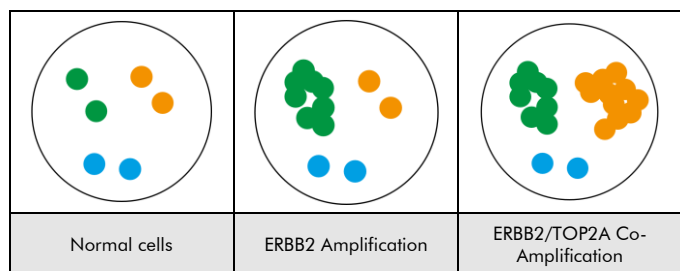

Fig. 2: Expected results in normal and aberrant nuclei
**Normal situation:** In interphases of normal cells or cells without an amplification involving the respective gene regions, two green, two orange, and two blue signals are expected (see Fig. 2).
**Aberrant situation:** In cells with an amplification of the ERBB2 gene region, an increased number of green signals or green signal clusters will be observed. In cells with an amplification of the TOP2A gene region, an increased number of orange signals or orange signal clusters will be observed. Deletions affecting the TOP2A gene region result in a reduced number of orange signals (see Fig. 2).